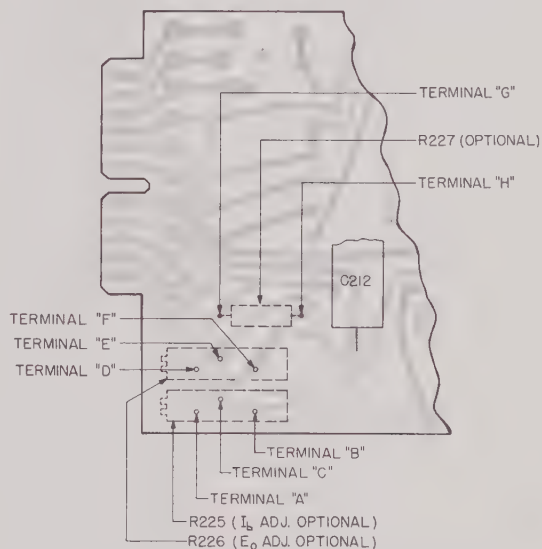
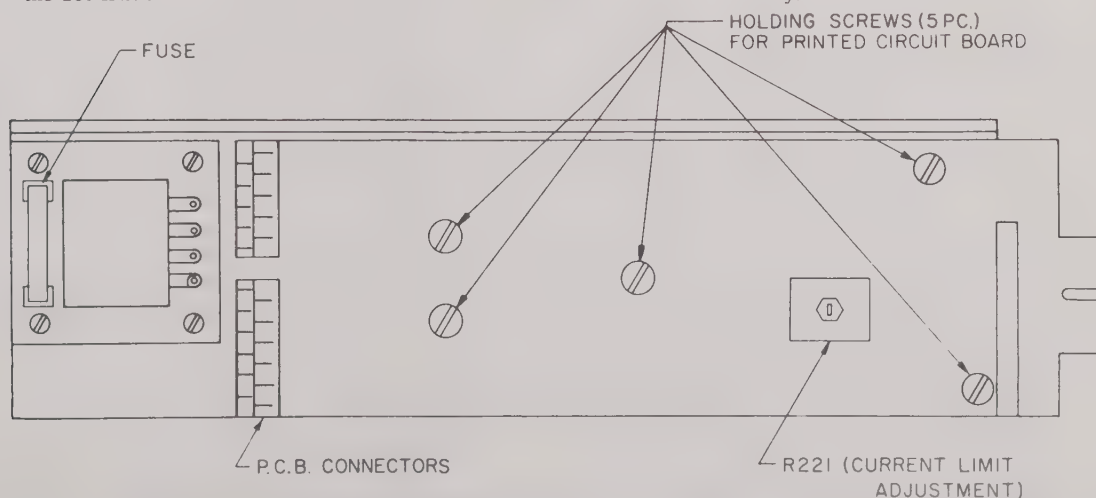

FIG. 5-2 INSTALLATION OF OPTIONAL CONTROL COMPONENTS
FIG. 5-1 LOCATION OF CURRENT LIMITING ADJUSTMENT ADJUSTMENT POTENTIOMETER. LOCATION OF MOUNTING SCREWS
(Refer to Fig. 5-1)
(Refer to Fig. 5-1 and Fig. 5-2, also see note following paragraph 5-7d.)
- Remove the five mounting screws as indicated on Fig. 5-1. Remove PCB connectors and lift PCB from assembly.
- b) Install components as directed in the following paragraphs and as shown in Fig. 5-2.
- b) Insert 1K ohm, W.W. potentiometer, BOURNS "Trimpot" No. 3067S-1-102, KEPCO Part Number 115-0739 or equivalent in the space outlined on Fig. 5-2. Solder in place.
- c) Turn potentiometer to its approximate mid-position. Install a precision resistor (R_{vc}) across barrier strip terminals (8) and (9) and connect a precision voltmeter across the output terminals (5) and (6). Since the bridge current (I_b) is 1 mA, and the control ratio is 1K ohm/V, the output voltage E_o will be equal to $E_o = I_b R_{vc}$; i.e., for each 1000 ohms of voltage control resistance (R_{vc}) one volt of output voltage will appear across the output terminals.
- a) If the PBX Power Supply is used as a fixed source, the voltage control resistance, R_{vc} , can be internally installed on the printed circuit board as indicated in Fig. 5-2.
- 3) For PBX Models exceeding 15 volts output voltage, a combination of "Trim pot" and fixed resistor can be installed for limited adjustment of the output voltage. Install the variable resistor as described in (2). Insert fixed resistor between points H and G. Any combination of fixed and adjustable resistors can be chosen as long as high quality wire-wound components with low temperature coefficient are used.
- 5-11 Servicing beyond simple part replacements should be attempted only by personnel thoroughly familiar with solid state components and with experience in closed loop circuitry. Since "troubleshooting charts" containing resistance and voltage measurements at various places in the equipment are not very useful in feedback amplifiers, we have not included them in this manual. Presented instead is a fairly extensive circuit description (Section IV), detailed diagrams showing adjustments and parts location (see Figs. 5-1, 5-2, 5-5, and 5-6), as well as the Main Schematic, Fig. 5-7, which together should provide the necessary information for qualified personnel in the repair of this instrument. KEPCO Field Engineers and the KEPCO Repair Department are always available for prompt service in difficult cases.